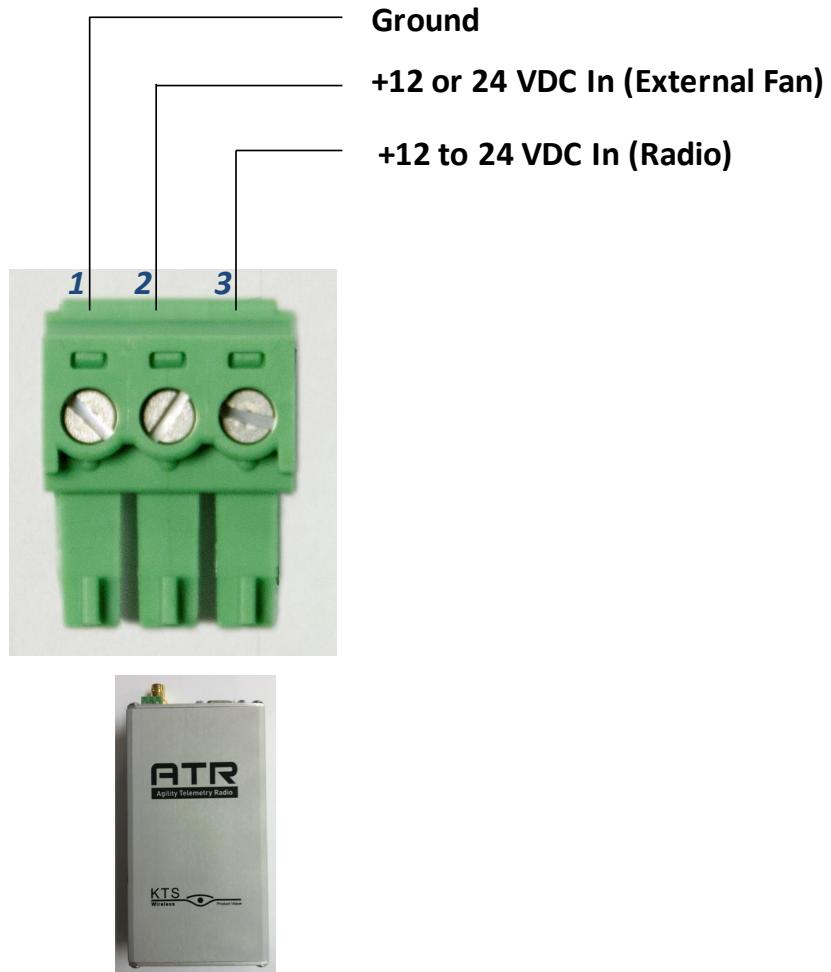

Figure 3: ATR Power Connections
The proper wiring for the Terminal Block (TB) is shown in Figure 3 below: